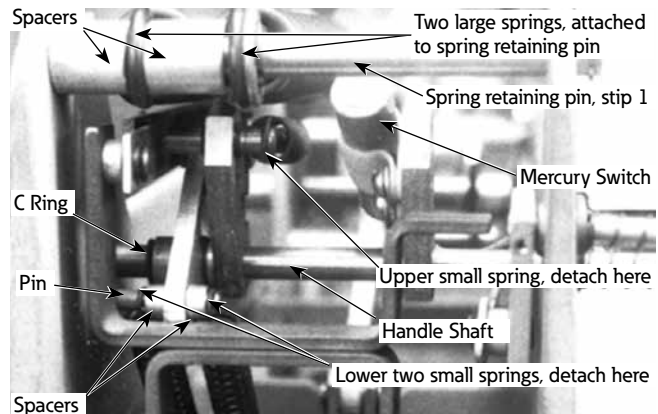

Figure 7. Springs and retaining pins.
1. Detach and discard two C rings from spring retaining pin at outer frame (Figure 7). (Oil-interrupting unit with two spacers shown. Vacuum units have no spacers here.)
3. Detach the upper small spring from the retaining pin in the handle shaft assembly as shown in Figure 7.
6. Detach the two, small lower springs from retaining pin marked 'pin' in Figure 7.